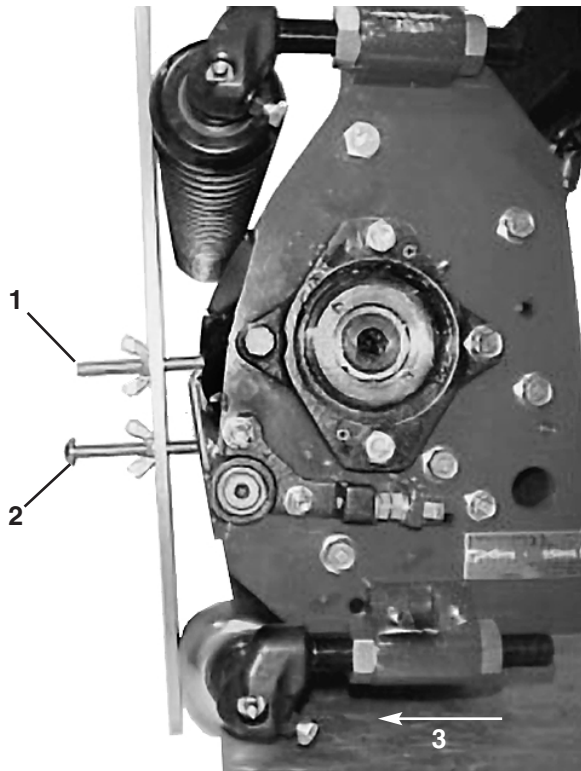

Figure 13
- Place the gauge bar across the cutting unit's front and rear rollers as shown in Figure 13
- Adjust the rear roller until it contacts the gauge bar on both sides (fig. 13).